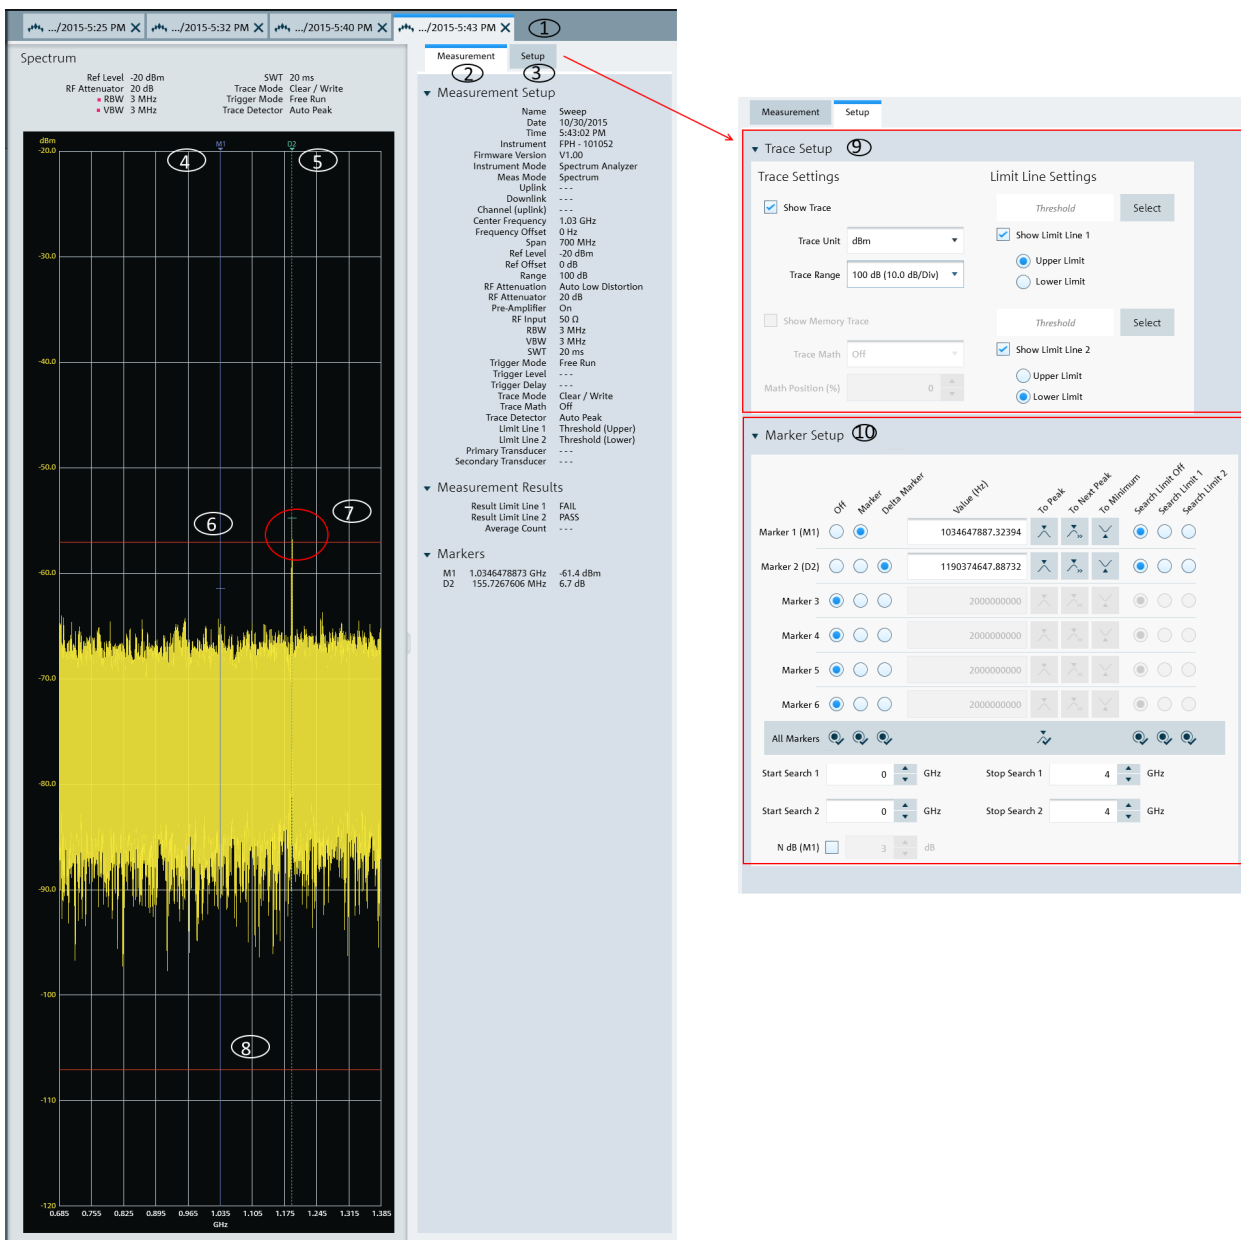

Figure 4-4: Trace measurement window
The "Get Trace" menu allows you to capture the current trace measurement from the instrument and display it in the trace window. A new tab is formed in the "Tab header bar" for every new trace captured from the instrument. See index 1 in Figure 4-4.
See index 6 and 7 in Figure 4-4.
See index 3 in Figure 4-4.
- The "Limit Line Settings" provides two sets of limit line that you can apply on the trace window. Each set of the limit line provides the selection to apply it as "Upper Limit" or "Lower Limit". The test result of the limit line is displayed in the "Measurement" tab. See index 2 in Figure 4-4.
The "Open Trace" menu allows you to open the existing trace measurements from the PC and displayed it in the trace window. A new tab is formed in the "Tab header bar" for each trace opened from the PC. See index 1 in Figure 4-4.
See details of "Measurement" tab in index 2 of Figure 4-4.
See details of "Setup" tab in index 3 of Figure 4-4.